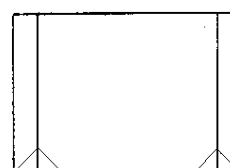

Fig. 7
- Adjust the LOWER CORNER CORRECTION to obtain condition as in (fig. 7).